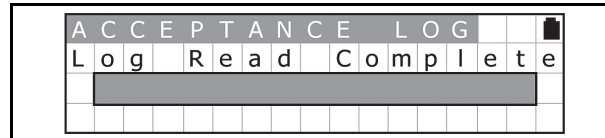

Figure 44 Log Read Complete Screen
- Once reading of the Acceptance Log is complete, the LCD will display the Log Read Complete Screen shown in Figure 44.